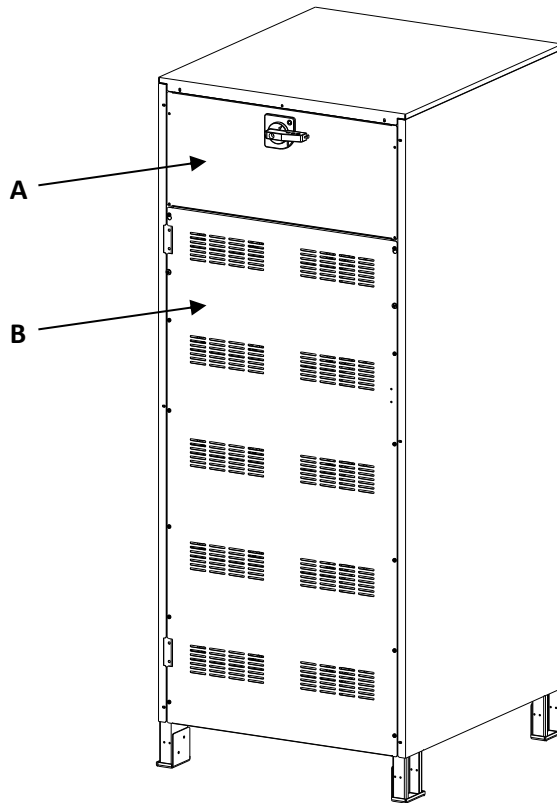

Fig. 2
The battery cabinet, without door, comes in as per Fig. 2.
- Remove the two internal "A" and "B" panels, see Fig. 2.